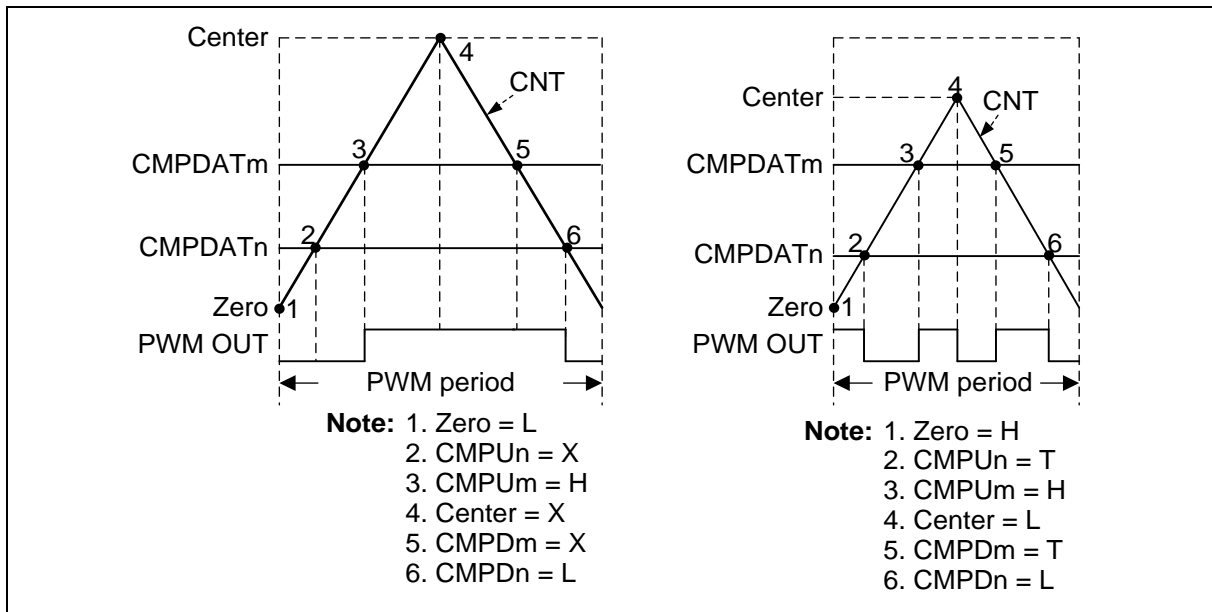

Figure 6.13-17 PWM Pulse Generation
Each event point can decide PWM waveform to do nothing (X), set Low (L), set High (H) or toggle (T) by setting the PWM_WGCTL0 and PWM_WGCTL1 registers. Using these points can easily generate asymmetric PWM pulse or variant waveform as shown in Figure 6.13-17. In the figure, PWM is in complementary mode, there are two comparators n and m to generate PWM pulse. n denotes even channel number 0, 2, or 4, and m denotes odd channel number 1, 3, or 5. n channel and m channel are complementary paired. Complementary mode uses two channels (CH0 and CH1, CH2 and CH3, or CH4 and CH5) as a pair of PWM outputs to generate complement paired waveforms. CMPU denotes CNT(PWM_CNTn[15:0]) is equal to CMP(PWM_CMPDATn[15:0]) when counting up. CMPD denotes CNT bits is equal to CMP bits when counting down.